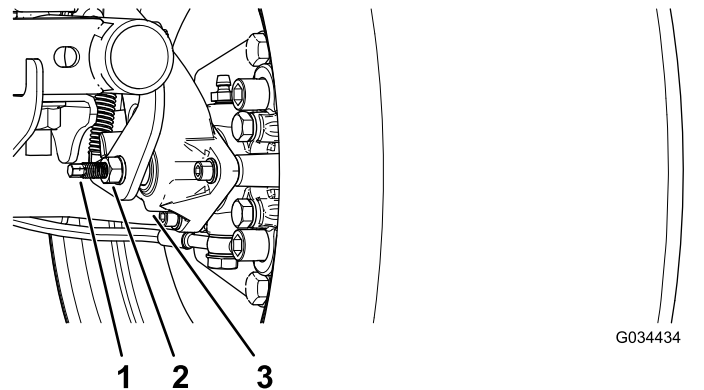

Figure 66
3. Using 2 wrenches, hold the adjusting post on the caliper in place with 1 wrench, and loosen the jam nut 1/4 turn with the other wrench (Figure 66).
4. While holding the adjusting post and the jam nut in place, turn the adjusting post in to tighten (Figure 66).
5. While holding the adjusting post and the jam nut in place, back off 1/4 turn (Figure 66).
6. While holding the adjusting post and the jam nut in place, tighten the jam nut (Figure 66).